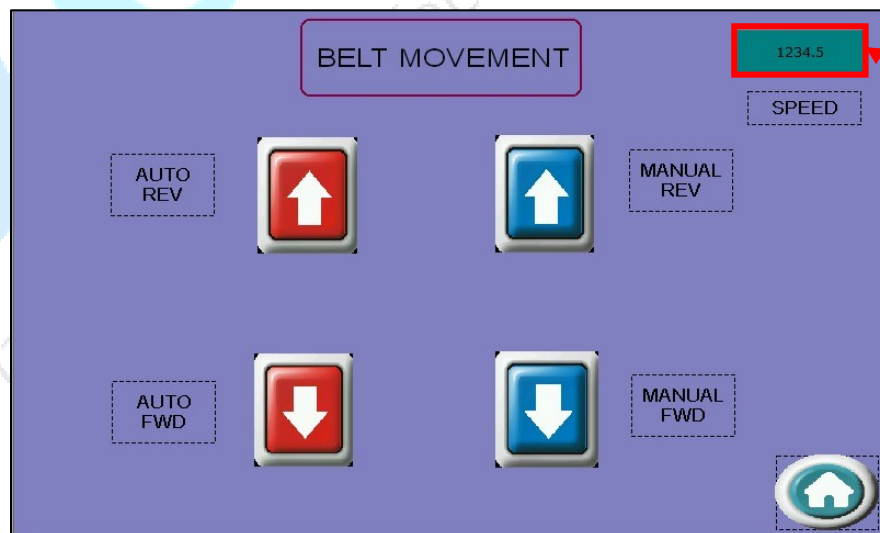

Fig 23: Displaying the BELT MOVEMENT Screen
The above screen is used to run the wash cycle by enabling all the options and run the belt in auto mode (using the BELT MOVEMENT screen Fig 23).
- **Belt Movement:** Set the belt movement (auto/manual and rev/fwd) (refer to Fig 23)